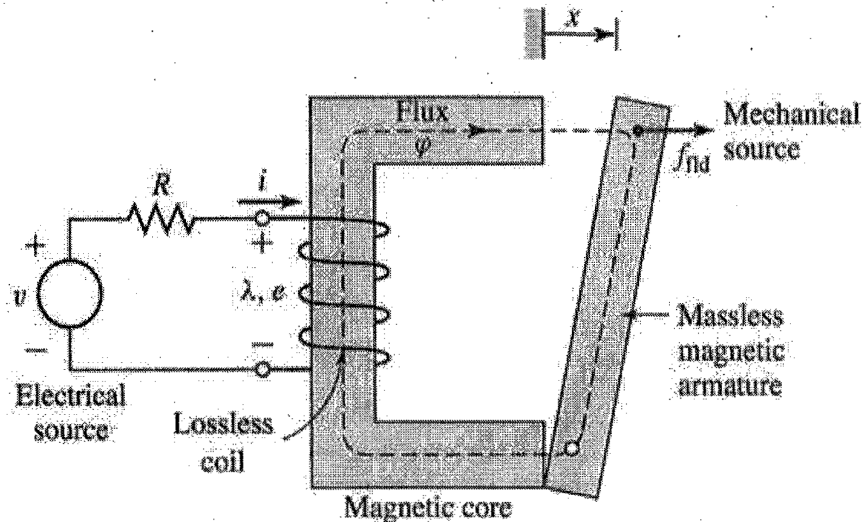

Fig.1
1. a) Consider the operation of an electromagnetic relay shown in fig.1, where one winding is mounted on a stationary member of iron and a movable member of iron is attached to a wall of the relay by a spring on one side. Now show that the energy converted to mechanical form equals the area between the two magnetization characteristics (flux vs.mmf) respectively for the open position and closed position with respect to movement of the plunger. Assume the necessary parameters for the system concerned.
- b) Derive the expressions for mechanical force in terms of field energy and co-energy if the plunger shown in fig.1 is allowed to move an infinitesimal distance in the direction of magnetic force acting upon it. **8+8=16**
2. In an electromagnetic relay shown in fig. 1, the exciting winding has 3000 turns. The cross-sectional area of the magnetic core is  $30 \text{ cm} \times 30 \text{ cm}$ . The reluctance of the magnetic circuit may be assumed to be negligible. Also neglect fringing effects.